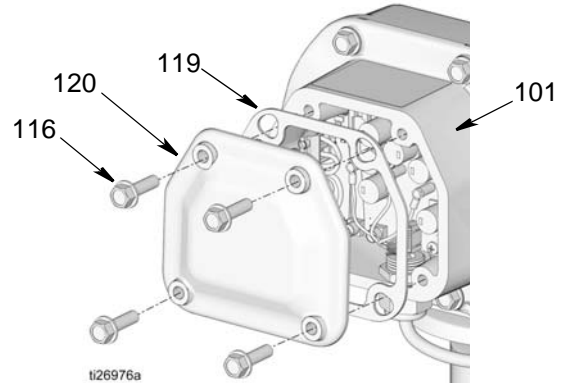

FIG. 5
9. Replace control box seal (119) and cover (120) with screws (116) (FIG. 5) being careful not to pinch any wires. Tighten screws securely. Torque to 17 - 19 ft lbs (23 - 25 N.m).